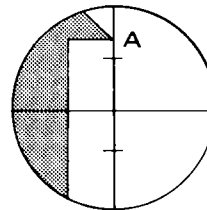

Figure 17
- Set the point of an easily visible, sharply defined target (i.e. the tip of a roof) at Point A on the upper part of the vertical crosshairs (see Figure 17).